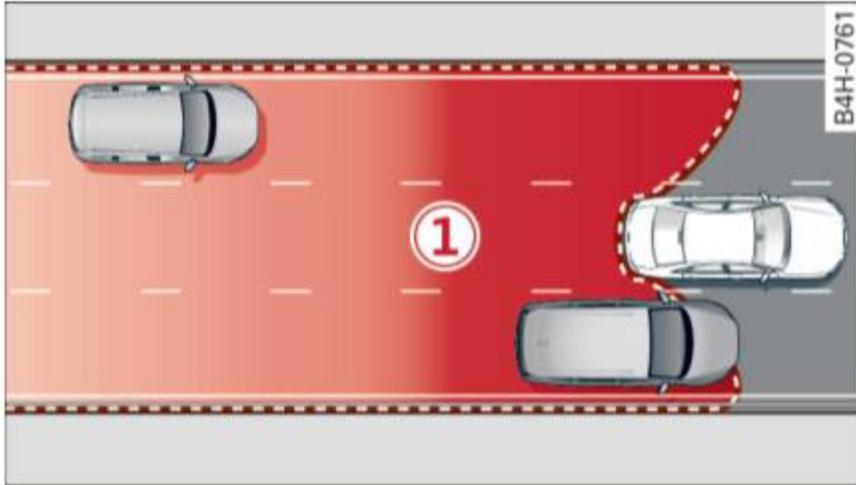
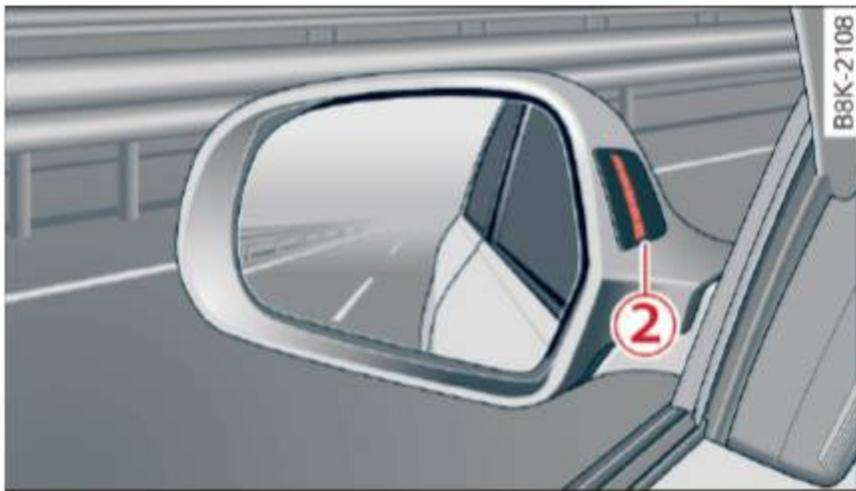

Fig. 104 Sensor detection range
Fig. 105 Display on the exterior mirror
Side assist helps you monitor your blind spot and traffic behind your vehicle. Within the limits of the system, it warns you about vehicles that are coming closer or that are traveling with you within sensor range ① ⇒ *fig. 104*: if a lane change is classified as critical, the display ② in the exterior mirror ⇒ *fig. 105* turns on.